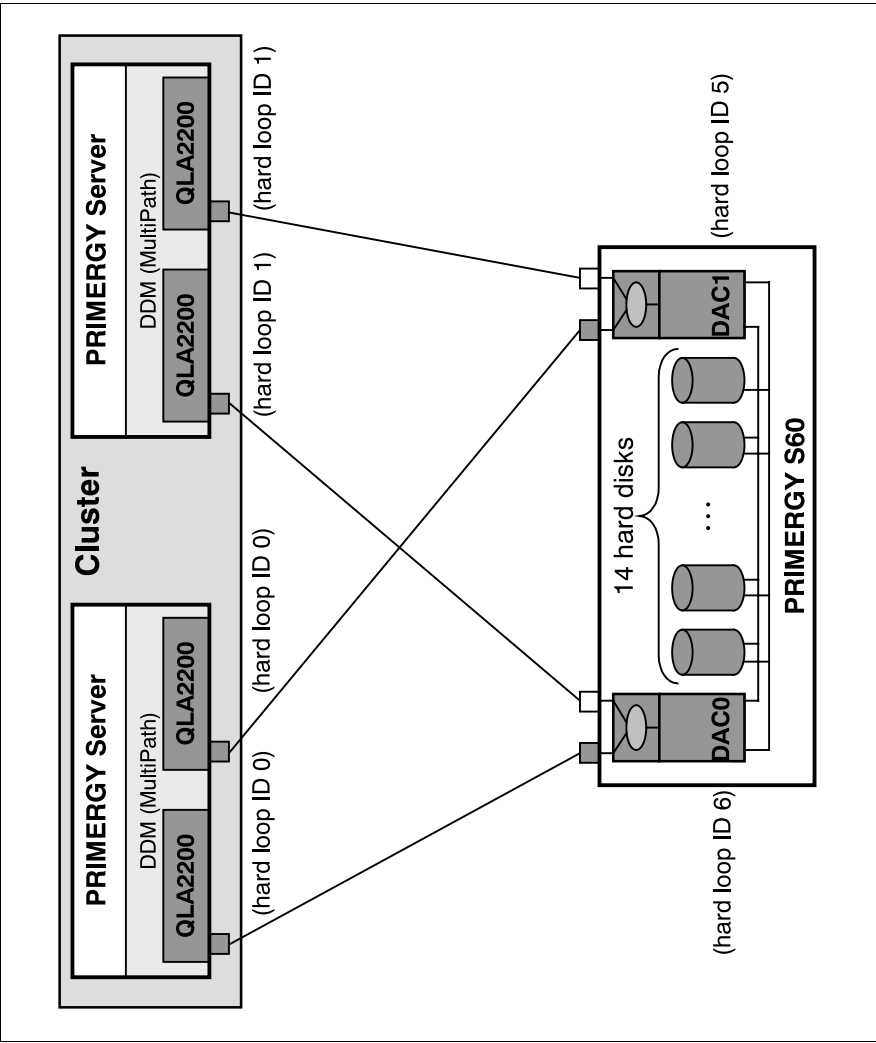

Figure 24: Cluster with MultiPath
- Loop IDs (see figure 24 on page 35)